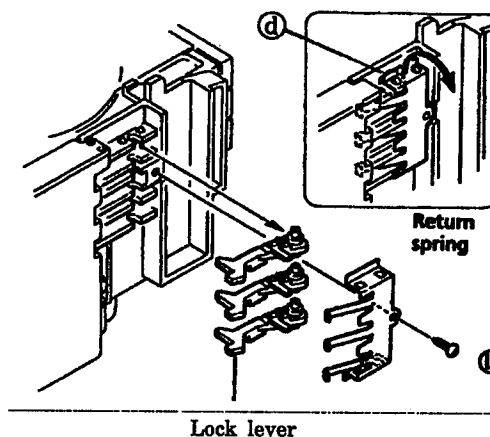

Fig.23
7. Remove a screw ①which secures the return spring and lock levers from the chassis ass'y.(See Fig. 23.)
8. Remove 2 pawls④ which slightly secure the return spring to remove it.